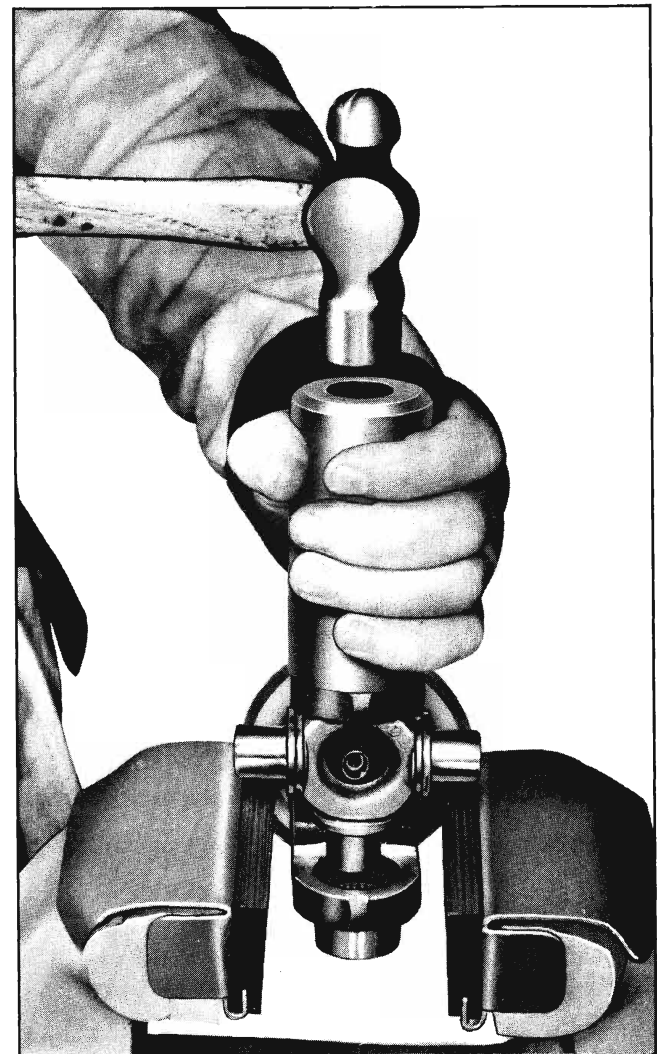

Fig. 4-11 Removing Bearing from Yoke
4. Using a piece of pipe $1\frac{1}{8}$ " I.D. or tool J-4774, drive yoke down causing journal (spider) to force bearing partially out of yoke (Fig. 4-11).